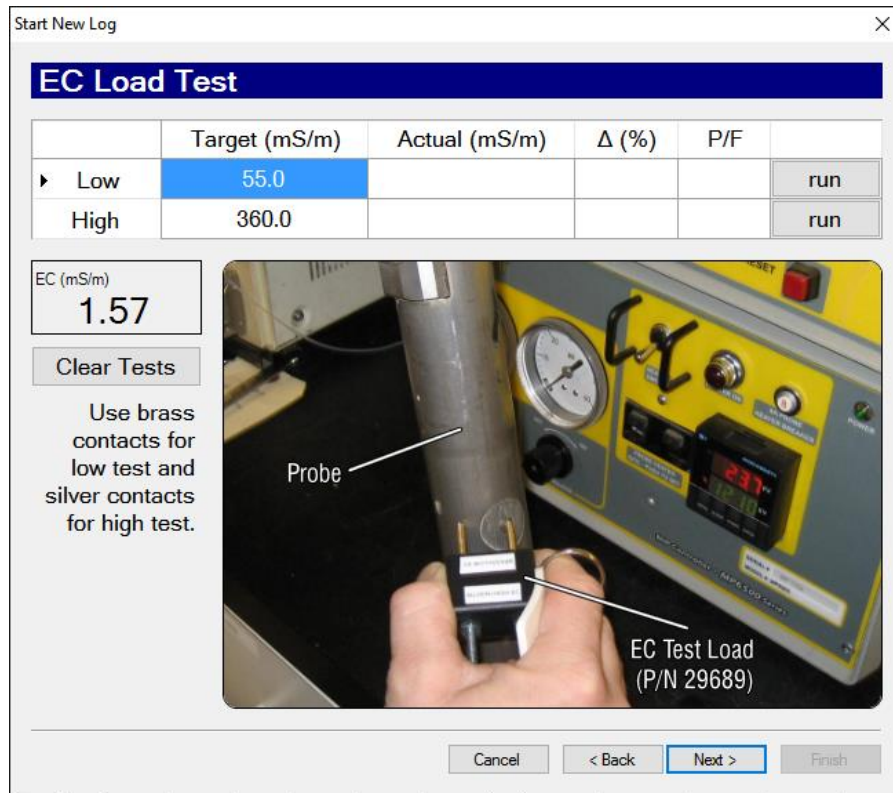
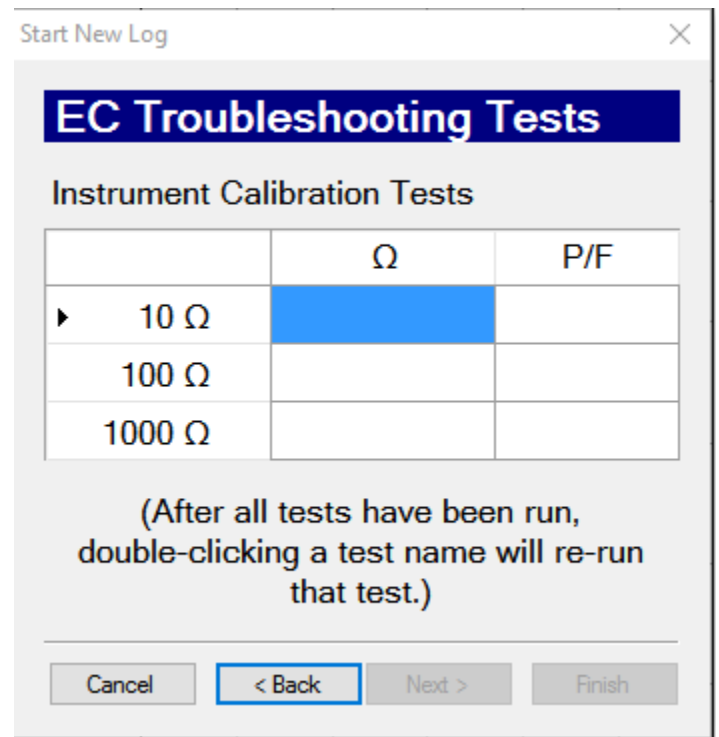

Figure 5.3 EC Load Test Window
Figure 7.1
### A. EC Load Test (Fig. 5.3)
1. On the EC load test window (Fig. 5.3) select "Finish". The EC troubleshooting test (Fig. 7.1) will run if either EC load test has failed. The EC troubleshooting test will verify the FI6000's 10, 100, and 1000ohm EC calibration.